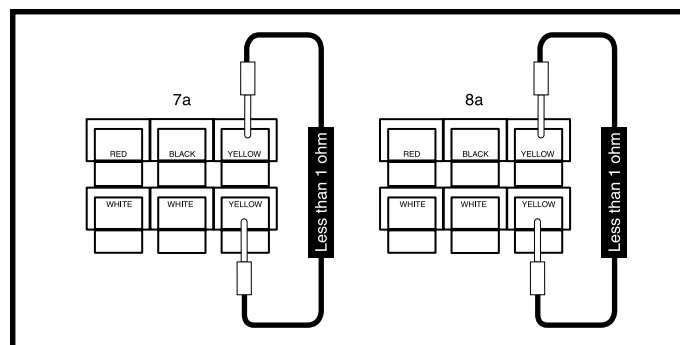

Figure 21. Connectors 7a and 8a
6. Measure resistance across pin 3 (yellow) and pin 6 (yellow) on connectors 7a and 8a. **See figure 21.**